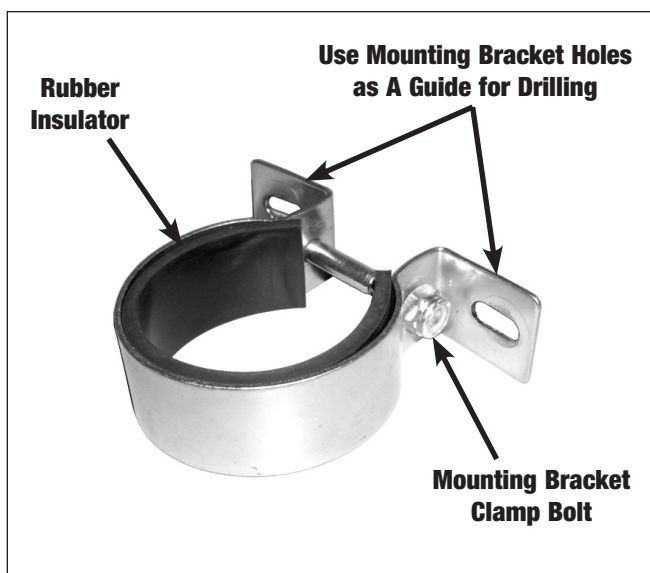

Figure 1 - Fuel Pump Mounting Bracket
4. Replace existing fuel lines as necessary for proper fitment. Mark and drill mounting bracket holes using the bracket as a template (**See Figure 1**).
9. Connect and tighten fuel lines to the inlet and outlet. Then tighten mounting bracket clamp bolt (**See Figure 1**).